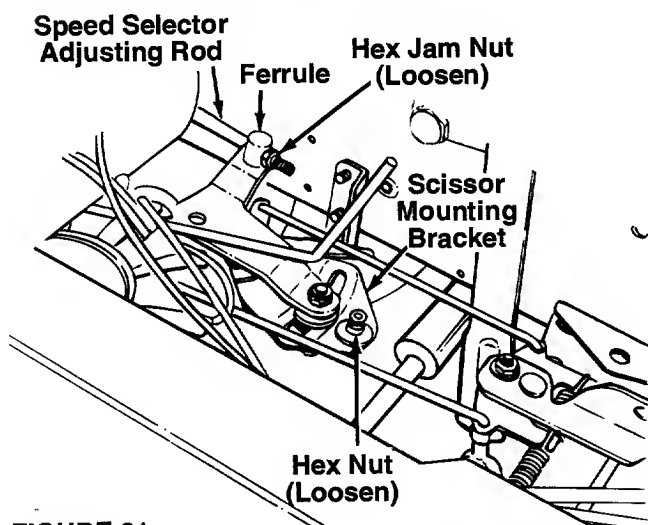

FIGURE 21.
3. Loosen the hex jam nut on the speed selector adjusting rod. See figure 21.
4. Loosen the hex nut on the scissor mounting bracket. See figure 21.